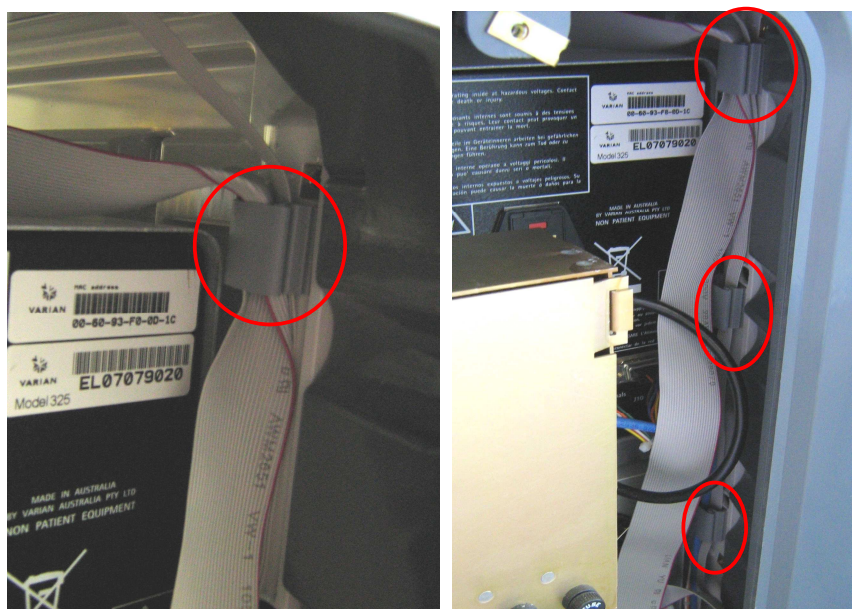

Figure 8: Cable loom clips alongside the instrument
9. Take the ribbon cable (item1) and pass it through the top of the absorbance detector to the back of the instrument. The ribbon cable is attached to the cable loom clips as shown in *Figure 8*. The cable is run down the right hand side (when looking in from the back of the instrument) of the instrument box and underneath the power unit and to the MIB.